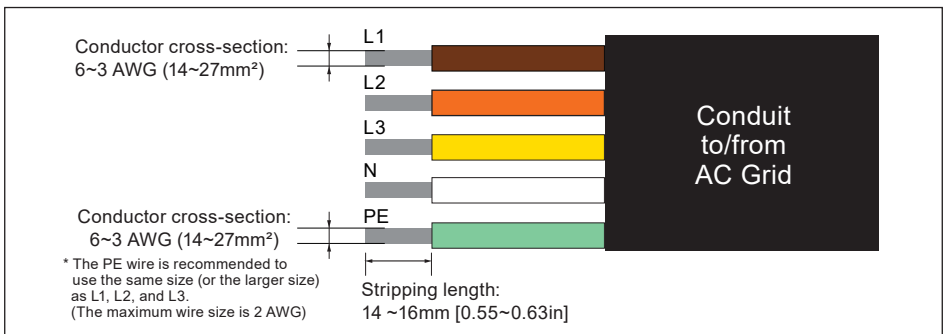

Figure 3-16: Stripping guide for AC conductors
- Ensure the AC conductors used are sized to the correct ampacity per NEC or other local code. Refer to **Figure 3-16**.